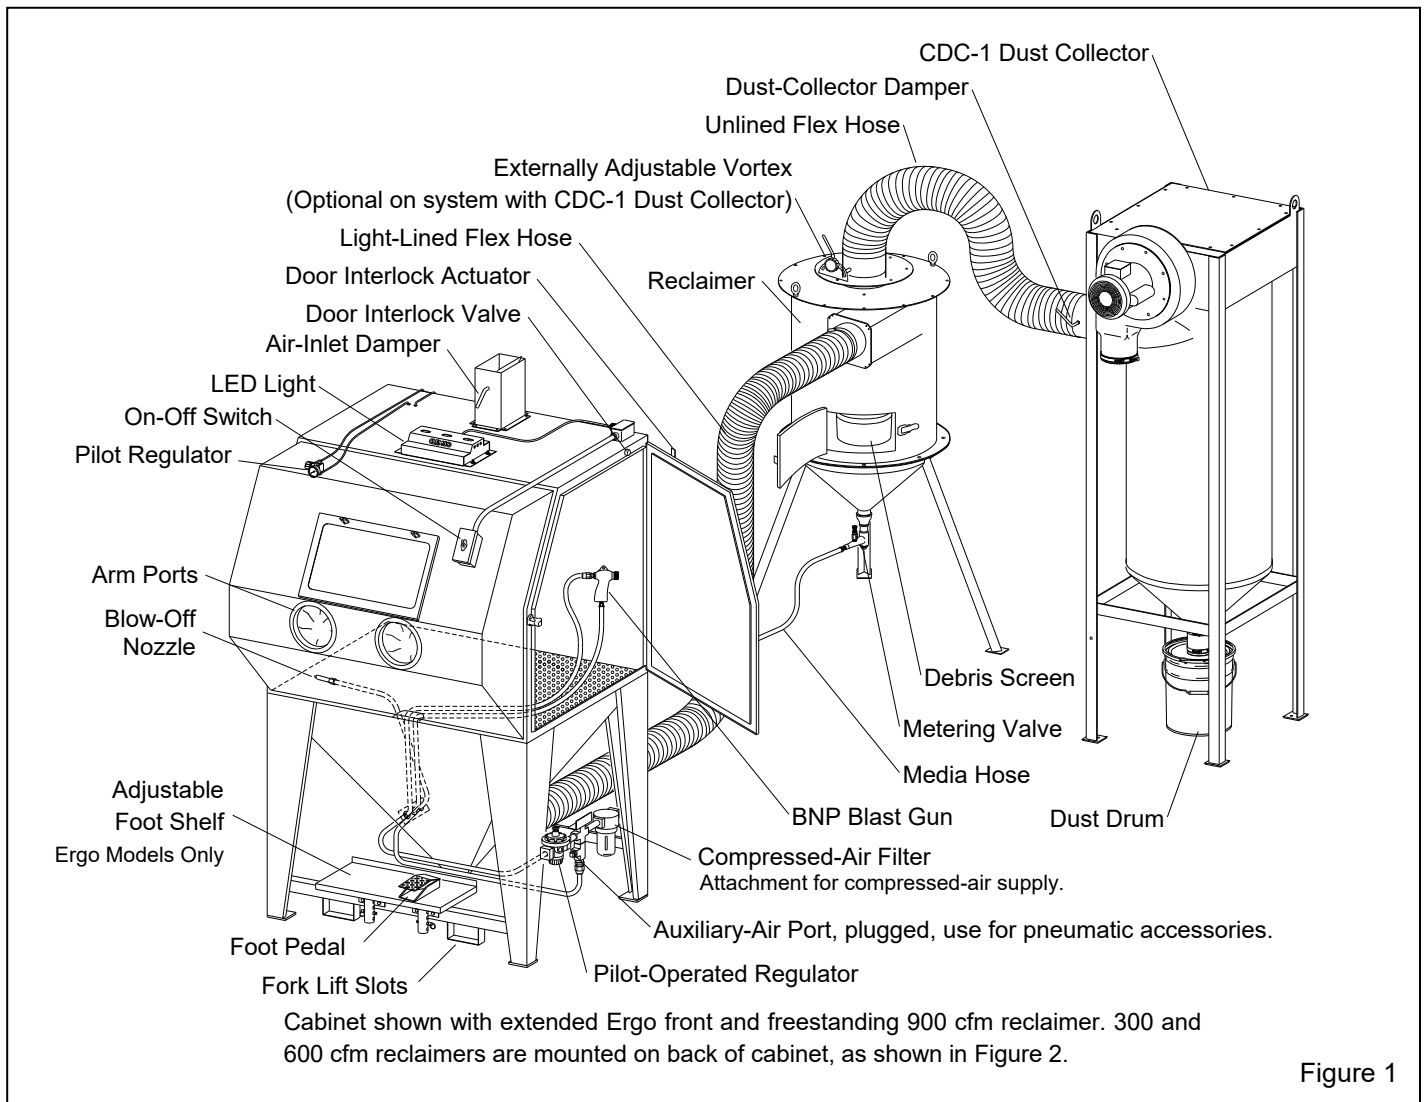
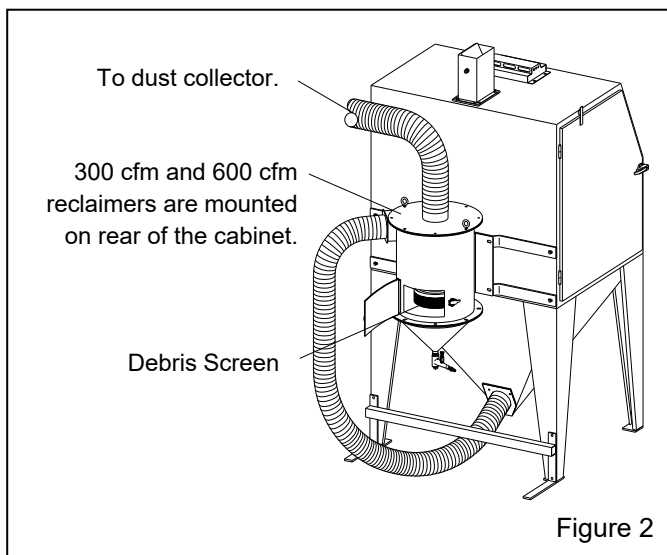
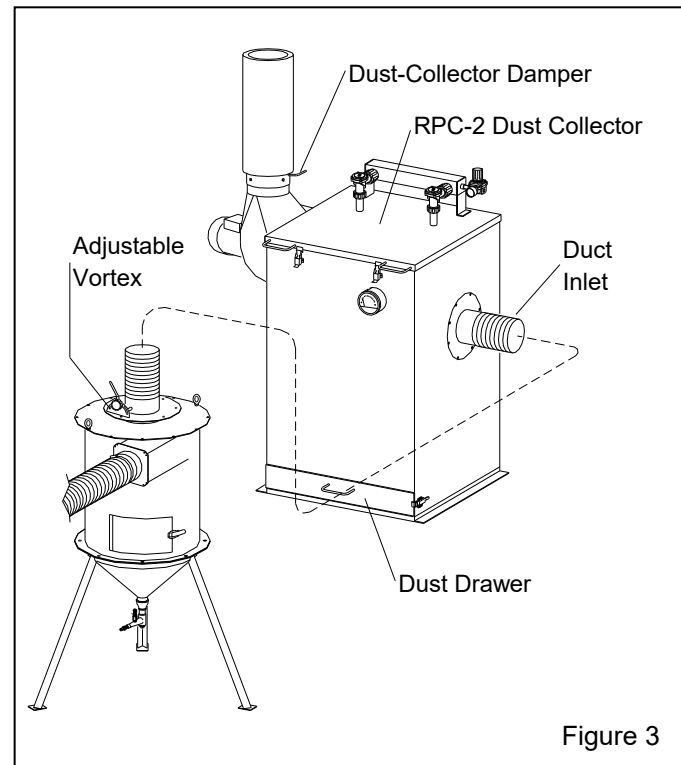

Figure 1
Figure 2
Figure 3
1.4.3 Refer to Figure 1 for arrangement of components with a CDC-1 Dust Collector. The illustration shows a freestanding 900 reclaimer; 300 and 600 reclaimers are mounted on the back of the cabinet, as shown in Figure 2. Figure 3 shows the arrangement with an RPC-2 (600 cfm or 900 cfm only) Reverse-Pulse Dust Collector with dust drawer. The optional RPH-2 (600 cfm and 900 cfm) is set up the same way as the RPC-2, but includes a hopper for additional dust storage and empties into a drum. The overall height of an RPH-2 is approximately 10.5 feet and 12 feet when the top access door is open. To upgrade, an RPC-2 or RPH-2 Dust Collector may be added at any time.
1.6.1 CDC-1 Dust Collectors: Shown in Figure 1, the collector is available in 300, 600, and 900 cfm models. The single-filter cartridge is cleaned by using a manually controlled pulse of compressed air. Dust collects in a 5-gallon dust drum, which must be frequently emptied. CDC-1 Dust Collectors are standard with BNP cabinets unless an optional RPC-2 or RPH-2 Dust Collector is ordered at time of purchase. Refer to manual number 28225.
1.6.2 RPC-2 Dust Collectors: Shown in Figure 3, this collector is available in 600 cfm and 900 cfm models. Dual-filter cartridges are automatically cleaned by a timed, periodic pulse of compressed air. Dust collects in the drawer, and it must be frequently emptied. Refer to manual number 22788.
1.6.3 RPH-2 Dust Collector: The RPH-2 is available in 600 cfm and 900 cfm models. It is set up and operate the same as the RPC-2, as shown in Figure 3, but instead of a dust drawer the collector sits atop a hopper, which provides additional dust storage and empties into a 30-gallon drum. Refer to manual number 21449.
2.1.1 Refer to Figures 1 and Figure 2 (and Figure 3 for optional RPC-2 Dust Collector) for the general arrangement. Place all components in a convenient location where compressed air and electrical service are available. The cabinet location must comply with OSHA and local safety codes. Allow for full access to all doors and service areas, and for efficient handling of large parts. Provide enough clearance at the dust collector for maintenance and to remove the dust container. Place